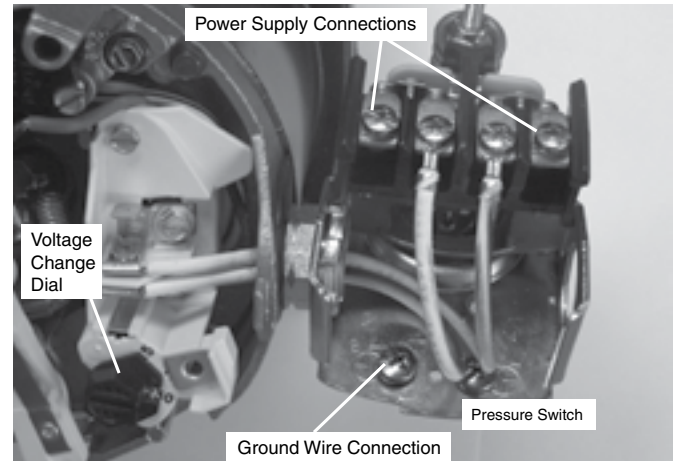

Figure 7: Voltage set to 230 V, Dial Type
3. Attach the incoming power leads to the two outer screws on the pressure switch as shown in Figure 7.
4. Attach the ground wire to the grounding connections as shown in Figure 7.